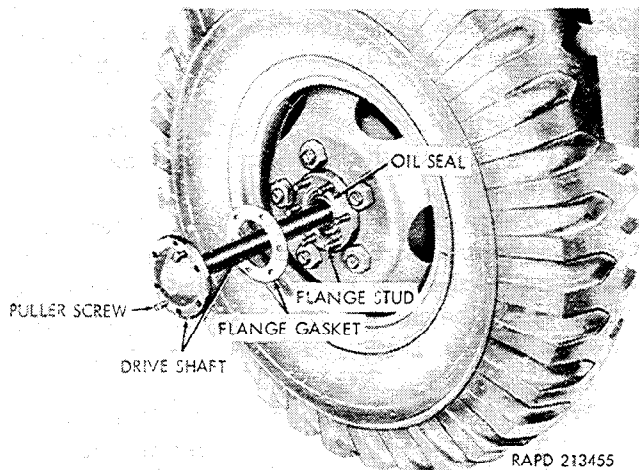

Figure 2-147. Rear axle drive shaft removal.
a. *Removal (Fig. 2-147).* Both drive shafts are removed in the same manner. It is not necessary to raise the rear axle.
(2) Remove the nuts and lockwashers from the six drive shaft flange studs. Remove the two puller screws from the flange and remove the nuts. Install the screws in the flange and tighten evenly to force the flange from the hub. Pull the drive shaft from the axle housing. Remove and discard the flange gasket and remove the two puller screws from the flange.
(3) If the drive shaft is broken and a piece of the shaft remains in the axle housing, it may be removed by snaring it with a length of wire. If the broken portion cannot be removed, replace the axle (para 2-123).
b. *Installation (Fig. 2-147).*
(1) If the original shaft is to be installed, clean and inspect it for damaged splines, distortion, and damaged flange surfaces. Clean the gasket surfaces of the flange and the hub.
(2) Apply a coating of liquid type gasket